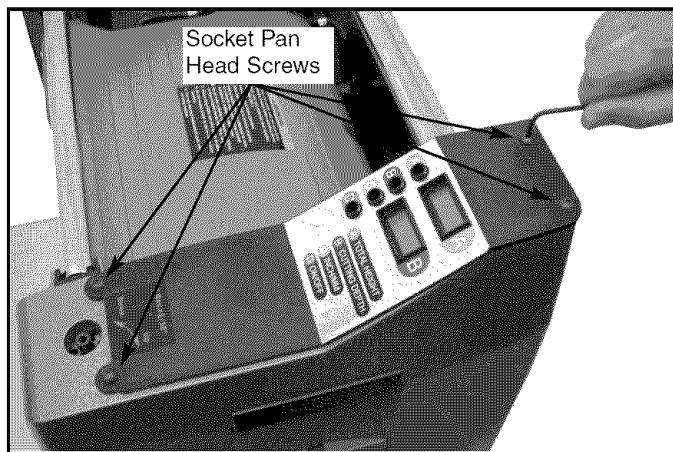

Figure 2 – Remove Display Panel
- Loosen and remove four socket head pan screws and then remove the display panel cover (see Figure 2).
- Insert four (4) C batteries (not included). Make sure to install the batteries using the correct polarity (i.e., the "+" symbol on the battery aligns with the "+" symbol on the battery holder).